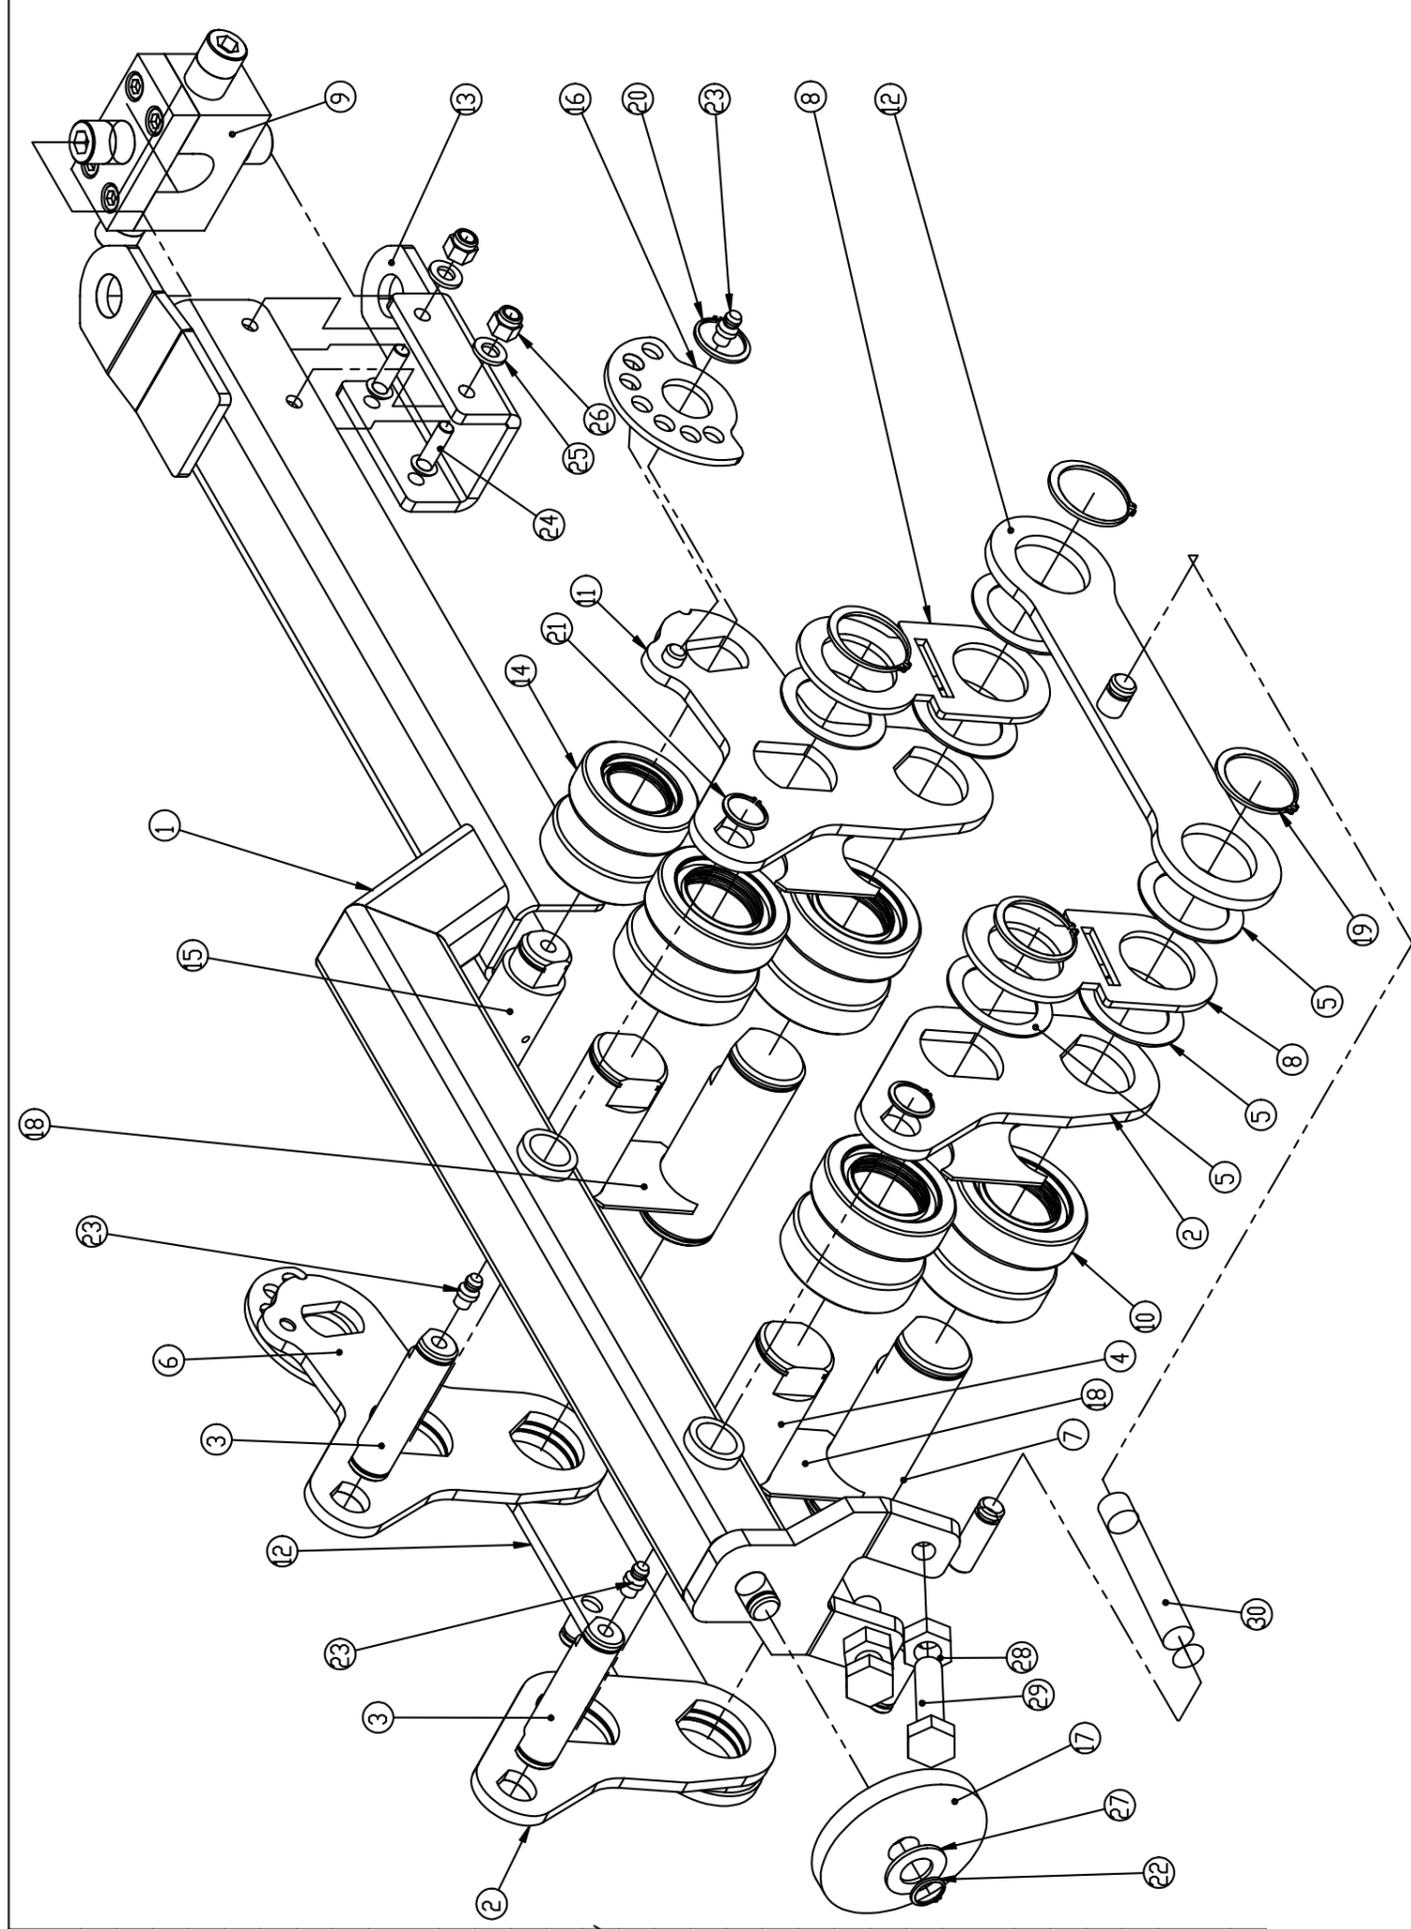
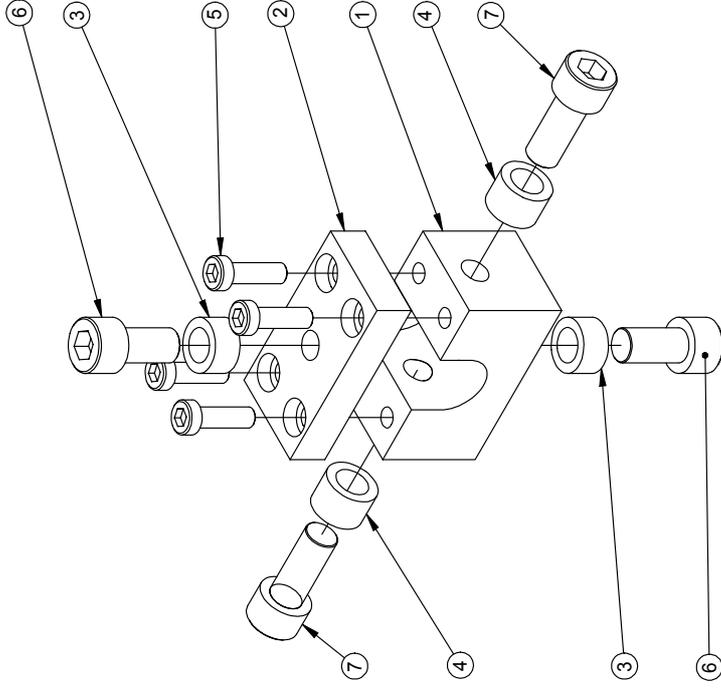

Figure 2. Rope Brake Assembly (Right Hand Rope Brake shown in inverted position).
Figure 3. Universal Joint [(assembly number 5003-500-005) shown in inverted position].
The Rope Brake is assembled around the winch rope and is mounted inside the hollow barrel of the fairlead assembly. The universal joint (Figure 3 and Figure 2, item 9) is bolted to the recovery systems’ fairlead. The Rope Brake is self-aligning with the winch rope for all fairlead positions. The Rope Brake rotates around the winch rope as the fairlead rotates in the direction of the winching task.
The hanger (Figure 2, item 1) extends from the universal joint through the barrel of the fairlead towards the winch. Brake components that control the resistance on the rope are mounted from the hanger, clear of the fairlead and adjacent boom structure.
The front arms (Figure 2, item 2) and rear arms (Figure 2, item 6 and 11) pivot on grease lubricated pivot pins (Figure 2, item 3) that pass through bushes in the hanger. Grease nipples (Figure 2, item 23) are press fitted to the pivot pins.
The Rope Brake applies the resistance to the rope through four (4) drag rollers (Figure 2, item 10) mounted in pairs. Each roller rotates on an axle. A long axle (Figure 2, item 7) is fixed in the end of the arms and a short axle (Figure 2, item 4) is located in a slot at the mid-length of the arms. The drag roller assembly consists of a hardened roller (Figure 4, item 1), fitted with a special composite bearing (Figure 4, item 2). The bearing is self-lubricating and is protected from dirt, water and excess oil or grease ingress at each end by two nitrile rubber lip seals (Figure 4, item 3). Each seal is fitted so that the rubber lips face outwards. A minute quantity of grease applied between the two seals is sufficient to provide lubrication of the seal lips.
The front and rear arms are connected by a link, at the ends furthest from the hanger, (Figure 2, item 12) which forms a parallelogram mechanism. Each link pivots on the ends
The arrangement of the rollers and arms is such that when the rope is pulled towards the winch the mechanism engages the rope once an initial small force is induced between the rollers and the rope. This initial small force is provided by two tension springs (Figure 2, item 30) attached between the hanger and the link connecting the front and rear arms. The rotation of the arms in the direction of the winch, relative to the hanger, is limited by a screw (Figure 2, item 29) and locknut (Figure 2, item 28) on each side of the hanger end. The extent of the arm rotation controls the deflection of the rope around the rollers, and the maximum amount of resistance that can be generated by the Rope Brake
The long axle in each arm is fixed relative to the arm end. Short axles have parallel flats on the ends, which are fitted between the sides of the slotted hole in each arm. A shear link (Figure 2, item 8) fitted on the outside of each arm locates the short axle relative to the adjacent long axle and hence determines the spacing between the rollers attached to the arm. Each pair of shear links carries the force, which acts to separate a roller pair. Excessive force between a pair of rollers due to a damaged rope, debris or incorrect operation of the Rope Brake will break the shear link(s) allowing the short axle(s) to move away from the long axle(s). The shear links are not repairable.
A release roller assembly (Figure 2, item 14) that rotates on an axle (Figure 2, item 15) supported by the rear arms, deflects an unloaded rope away from the hanger as it enters the rear roller pair. The release roller assembly is grease lubricated and runs on a replaceable bearing (Figure 5, item 2) protected on both ends by a nitrile rubber lip seal (Figure 5, item 3). A grease nipple (Figure 2, item 23) is press fitted to the release roller axle. The force exerted between the release roller and the rope increases as the tension on the free end of the rope increases (for example, due to a recovery task) and acts to rotate the release roller away from the winches. Rotation of the release roller away from the winches decreases the deflection of the rope by the drag rollers and therefore the friction force on the rope.
Adjustment of the setting disks (Figure 2, item 16) varies the position of the release roller relative to the rear arms and hence the amount of resistance that the drag rollers exert on a completely taught rope as it moves towards the winch.
Contact between the drag rollers and the sides of the rear arms is prevented by scraper/wear plates (Figure 2, item 18) fitted between the arm side and the roller. The shape of the scraper/wear plates ejects dirt from between the rollers and side plates. Compaction of dirt between the roller and the arm side will result in seal wear and drag roller bearing damage.
The following descriptions for assembly and dis-assembly assume that the operator has familiarized themselves with the components of the Rope Brake and their relative positions, as illustrated in Figure 1, Figure 2, Figure 3, Figure 4 and Figure 5. Servicing of roller and release roller sub-assemblies are described separately, in Section 4.3.1.2 and Section 4.3.2.2.
- a. Using an 8mm Allen key, remove the four (4) M10 socket head cap screws (Figure 3, item 6, 7) from the universal joint assembly.
- b. Using a 5mm Allen key, remove the four (4) M6 socket low head cap screws (Figure 3, item 5) from the universal joint block and free the cap from the block.
- d. Fasten the cap to the block using the four (4) M6 socket low head cap screws. Apply Loctite 242 to the screw threads.
- d. Apply Loctite 242 sparingly to the threads of the two (2) M10x20mm socket head cap screws (Figure 3, item 6). Fit each with a short bolt sleeve (Figure 3, item 3). Fasten the universal joint to the hanger. Loctite must not be allowed to bond the bolt sleeve to the bolt.